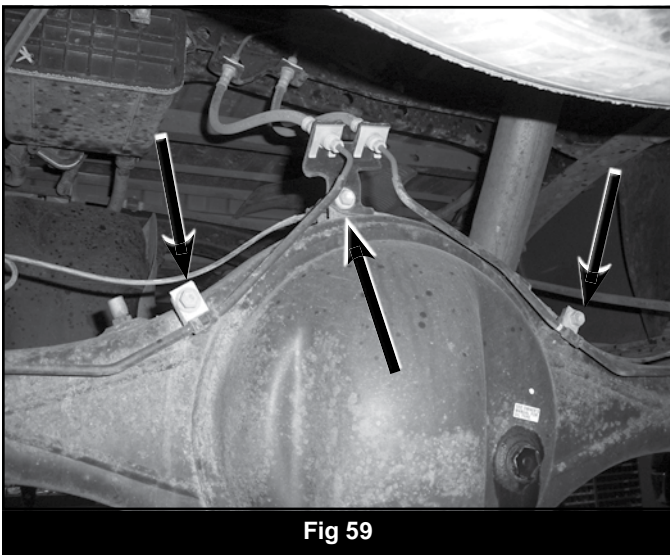
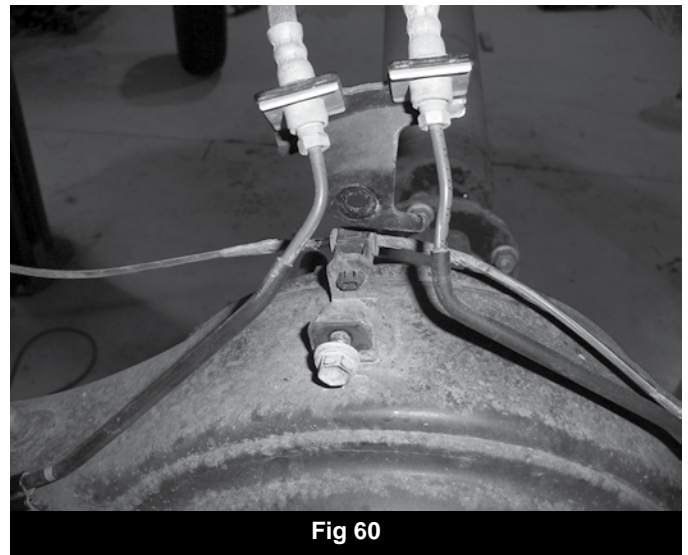

Fig 59
Fig 60
5. Disconnect the rear brake lines from the (3) mounting points at the center of the axle (Fig 59). Save hardware and leave the factory clamps on the hard lines. Disconnect the plastic ABS line clip from the top of the differential (Fig 60). Remove the plastic clip from the ABS line, it will not be reused.